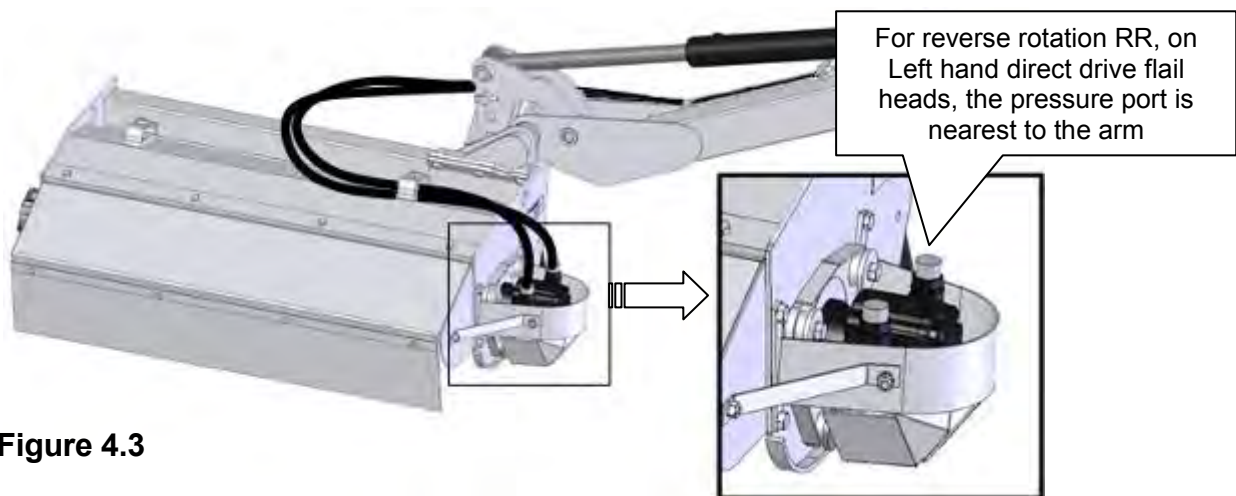

Figure 4.3
To connect a direct drive flail head in reverse rotation (RR) see figure 4.3.